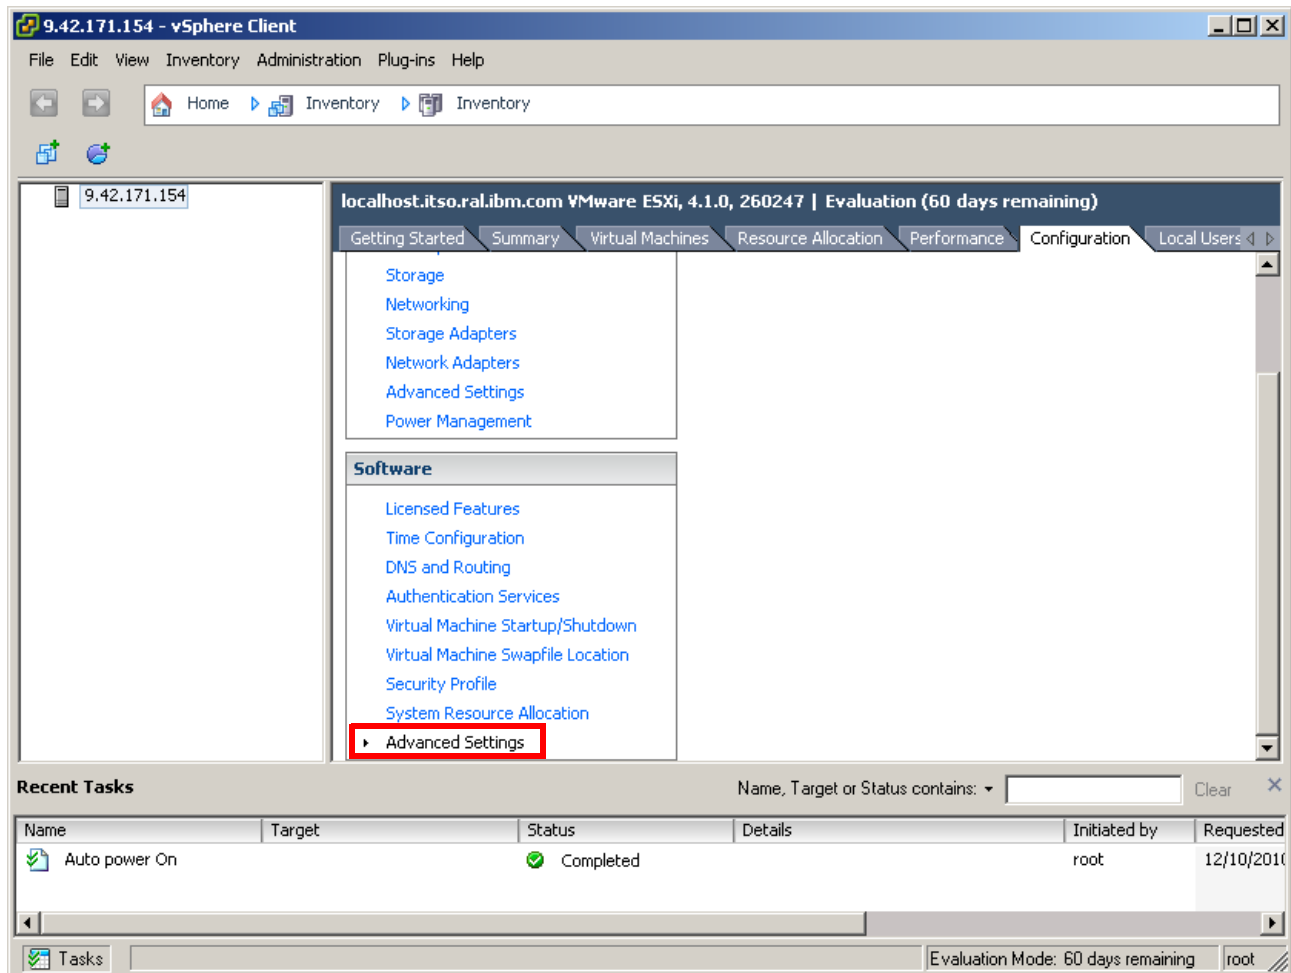

Figure 8-53 Editing the advanced settings in the vSphere Client
- i. Select the **Configuration** tab of the host and click **Advanced Settings** under the Software panel, as shown in Figure 8-53.